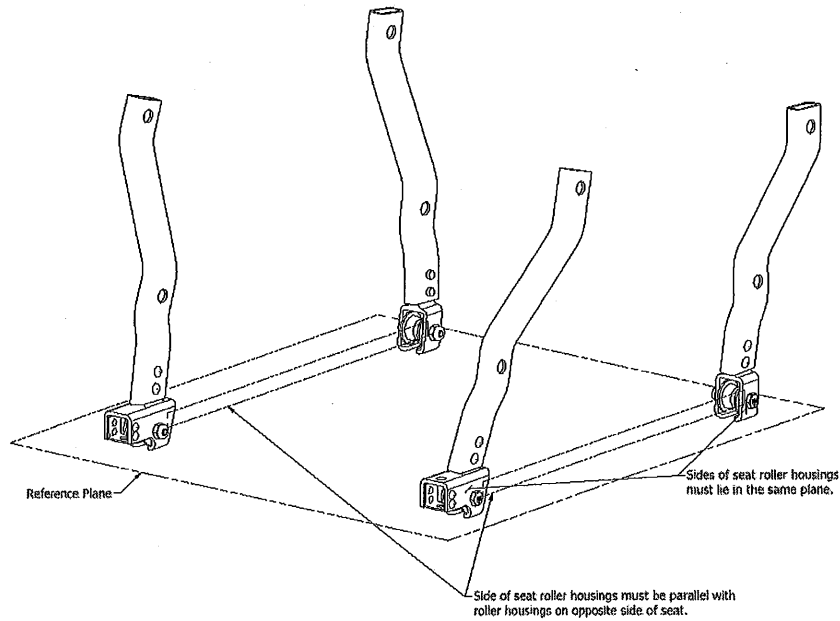

Figure 3.
6. Place the seat on a flat surface as shown in Figure 3. Compare the alignment of the new seat roller housing to the other seat roller housings. Loosen the clamp and correct the alignment as required, making sure the roller housing is aligned with the other roller housings as shown in Figures 3, 4a, and 4b. Tighten the clamp.